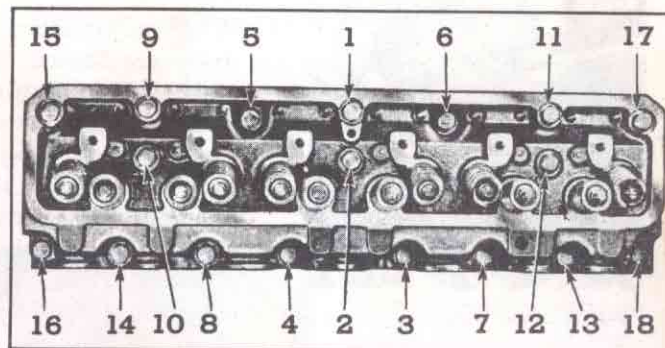

Fig. 64—Cylinder Head Bolt Tightening Diagram
3. Tighten all manifold bolts (4 center clamp bolts 15-20 ft. lbs. torque; 2 end clamp bolts 25-30 ft. lbs. torque), valve rocker shaft support nuts and bolts (25-30 ft. lbs. torque) and cylinder head bolts (90-95 ft. lbs. torque) in sequence shown in Figure 64.